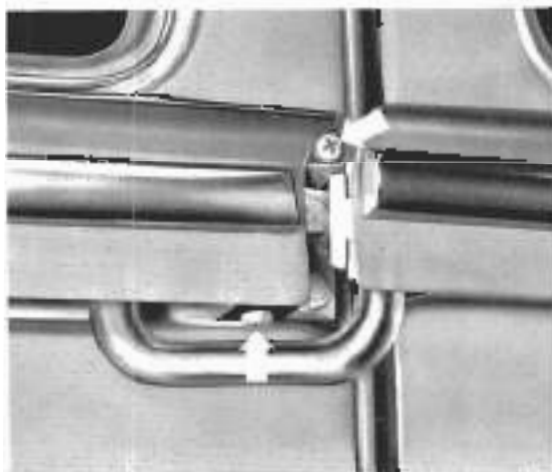
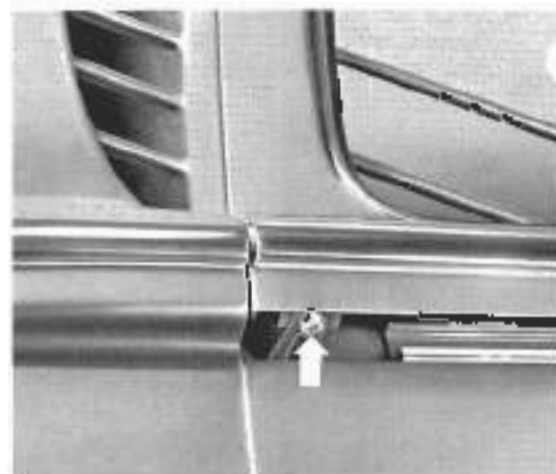

Fig. 5-32. Phillips head screw (arrow) at the front of the outside runner cover
Fig. 5-33. Phillips head screw (arrow) at the rear of the outside runner cover
1. Remove the three Phillips head screws that hold the cover on the body. Their locations are shown in Fig. 5-32 and Fig. 5-33.